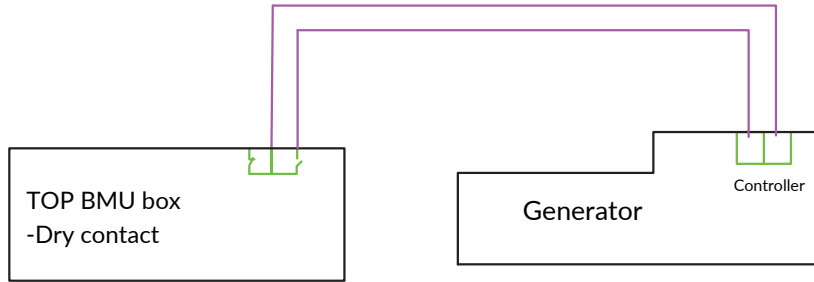

Figure 4-29 Connecting the communication cable for generator
B. Please connect the generator controller to dry contact as the Figure 4-29 shows.